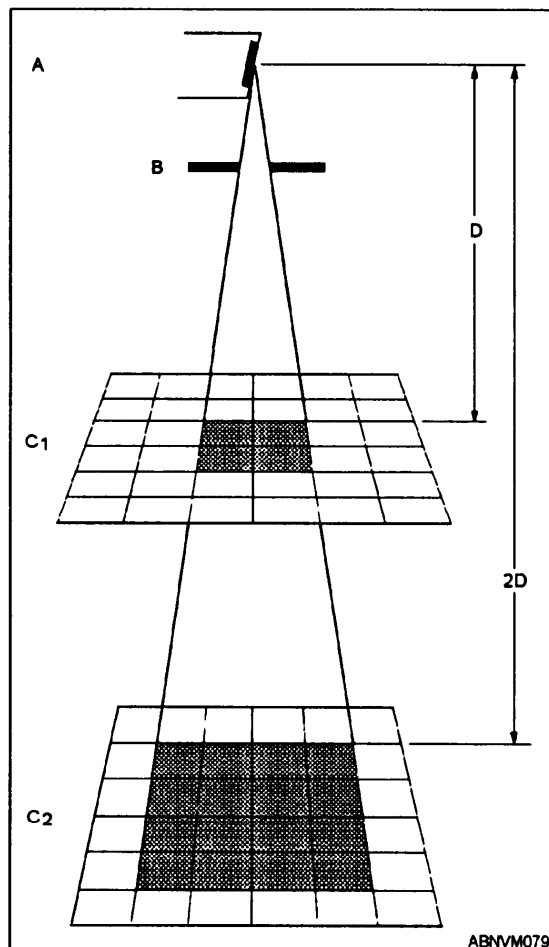

Figure 11-5.—Diagram illustrating inverse square law.
The best radiation safety precaution is distance between personnel and the radiation source. This is true because the intensity of radiation varies inversely with the square of the distance from the radiation source. X rays, like a beam of light, cover an increasingly larger area with lessened intensity as they travel from the source. This principle, known as the inverse square law, is illustrated in figure 11-5. When the distance (D) from the radiating source is doubled ($2D$), the area covered by the beam ($C1$) is quadrupled ($C2$). At the same time, though, the intensity per unit of area is only one-quarter of the value at the original distance. Thus, with sufficient distance, the area covered by the beam may be tremendously large, but its intensity per unit area will